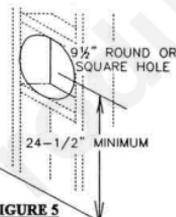

FIGURE 5
1. Cut or frame a hole in an exterior wall with a minimum round or square opening of $9\frac{1}{2}$ inches. **FIGURE 5.** Secure the firestop spacer over the opening to the interior wall maintaining a 1" clearance to combustibles.